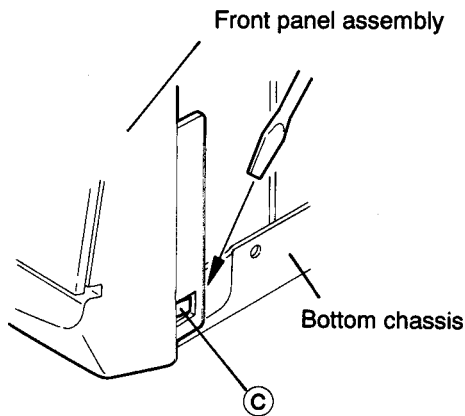

Fig.5-6
4. Use a screwdriver, etc., to disengage clips ③ and ④ from the side panels of the main unit. (See Figs. 5-6, 5-7)